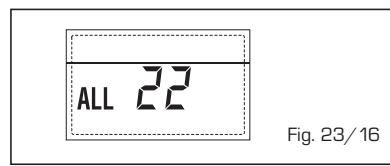

Fig. 23/16
- **ANOMALIA AVARIA SONDA IMPULSÃO SEGUNDA ZONA MISTURADA "ALL 23" (fig. 23/17)**